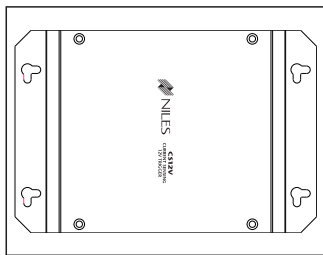

Figure 2: Table-top (on the floor or shelf behind the equipment).
1. *Table-top – on the floor or shelf behind the equipment* **Figure 2.**